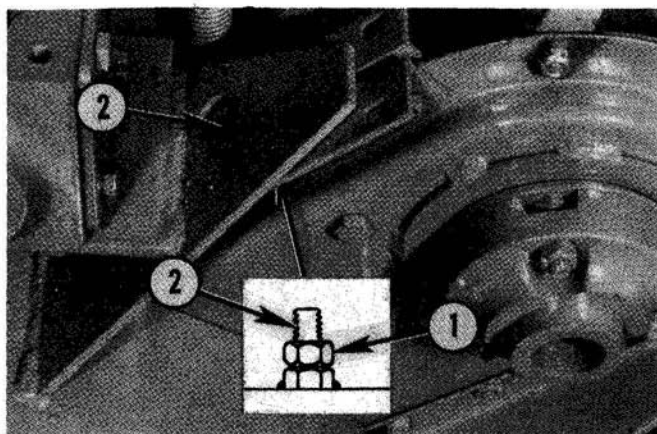

Fig. 13 — Enclosed Drive Chain Adjustment
ENCLOSED DRIVE CHAIN ADJUSTMENT.— FIG. 13
1. Loosen the jam nut shown in Figure 13 and turn the adjusting screw in clockwise direction while rotating the tines. Turn in until all backlash is removed and a slight drag on chain is felt.